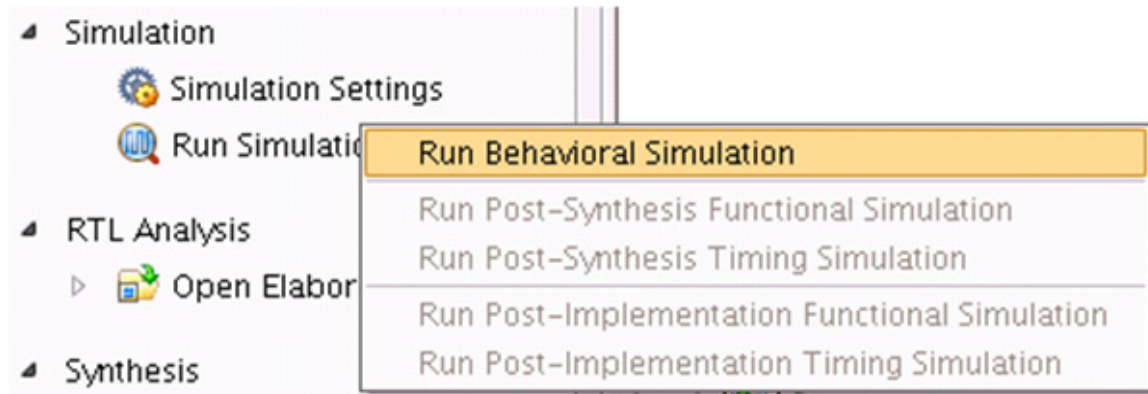

Figure 1-47: Run Behavioral Simulation
3. In the Flow Navigator window, select **Run Simulation** and select **Run Behavioral Simulation** as shown in Figure 1-47.
4. In the **Flow Navigator** window, select **Run Simulation** and select **Run Behavioral Simulation** as shown in Figure 1-47.